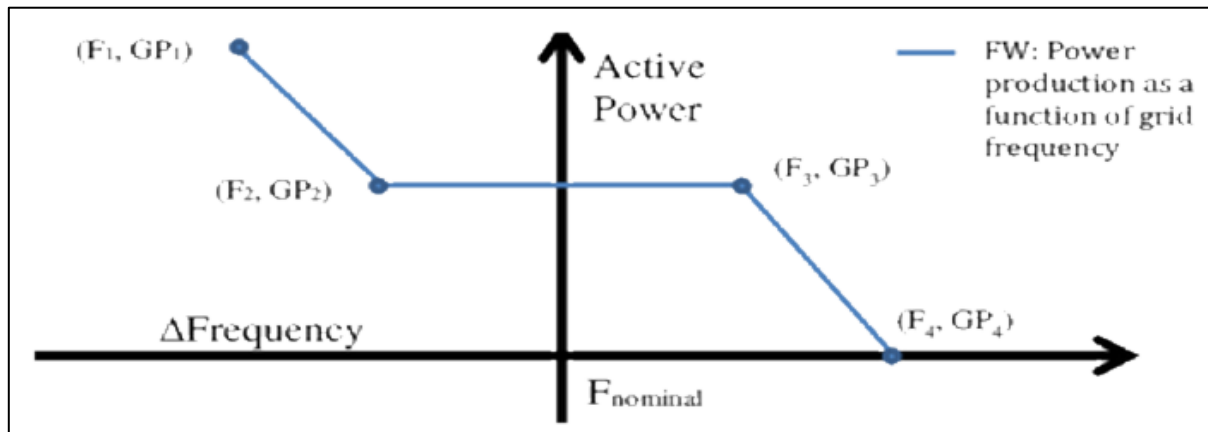

Fig 3 FW control
- **Frequency Wattage (FW) Control:**
Frequency Wattage (FW) control is another synchronization technology used in grid-connected solar inverters to regulate power output in response to grid frequency fluctuations fig 3. FW control algorithms adjust the inverter's output power based on changes in grid frequency, helping to stabilize the grid and prevent frequency instability. Key features of FW control include: